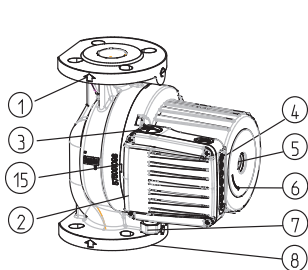
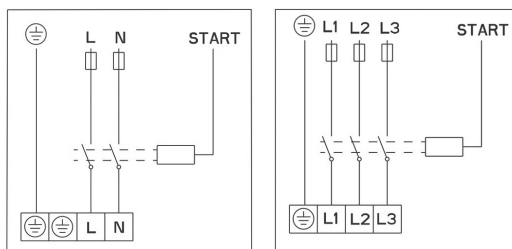

Fig.2
Fig. 4
- Direction of water flow through the pump should match with direction, indicated by an arrow on the pump casing (Fig.2-POS.1).
- The connecting flanges are designed for nominal pressure NP 6/10 (Fig.2 – POS.8).
- GHN (basic, auto), GHNM (basic, auto) pumps have a single hydraulic casing (Fig.2 – POS.8).
The hydraulic casing of the pump can be insulated only to the cleft between the motor and the hydraulic casing. Openings for condensate drainage should remain uncovered and enable the drainage from the stator housing. Similarly, the same openings must be uncovered also in heating systems, when only thermal insulation of hydraulic casing is implemented (Fig. 2, 3, POS. 15). Electric motor casing, on which the openings for condensate drainage are located, under no condition should not be insulated!
The connecting wire has to be connected over a cable entry M20 (Fig.2 – POS.7).
Electrical connections of the pump must be carried out in accordance with the wiring diagram (Fig. 4), attached on the bottom of motor cover. Before doing that unwind the upper cover (Fig. 2 - POS. 2).
In the pumps of types GHN (basic auto), GHND (basic, auto), GHNMD (basic, auto), GHNMD (basic, auto) the rotor is submerged and provided with special water-lubricated bearings. Before putting the pump into operation, it has to be filled with water and deaerated. Deaerate the pump by unscrewing a screw on the back side of the electric motor (Fig.2-POS.5). Air will flow out through the cleft between the motor shaft and the bearing. When water starts to flow out, close the valves at both the suction and pressure side of the pump. Start the pump and check the direction of shaft rotation. In case of a wrong direction a built-in flash lamp will start to blink with red light.
Each pump is able to cover the areas of three hydraulic characteristics. To achieve this, it has an inbuilt electric motor with three different revolution speeds. For achieving the selected characteristics or speeds ① ② ③, the pump has a push button  (Fig.2-POS. 4), with which we change speeds.
Switch off the pump, close the valve on both pressure and suction sides of the pump, unscrew the vent for deaeration, place the screwdriver (Fig.2-POS.5) in the notch on the shaft and twist as longer as friction forces allow. Then screw the vent for deaeration.